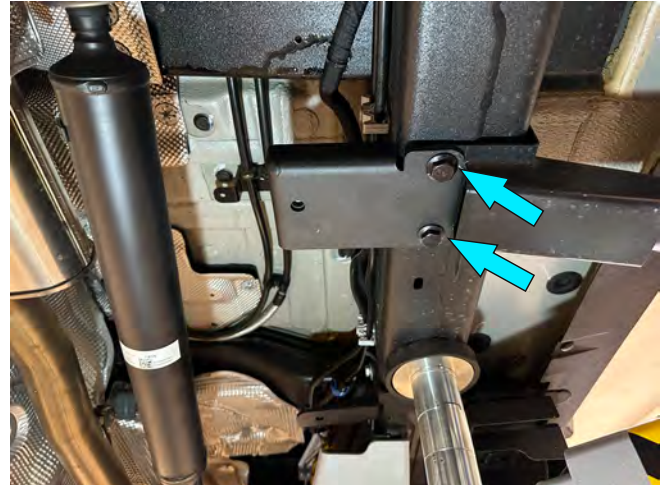

Fig. 11
11. If factory side steps are pre-installed on vehicle, install bracket 1 (item 5) over factory side step bracket as shown in fig.11. Secure bracket 1(item 5) using factory hardware.